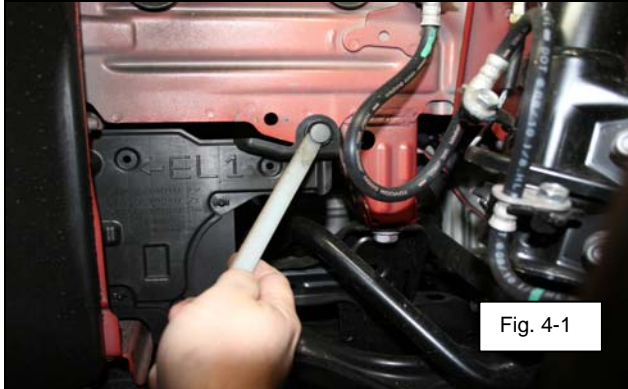

Fig. 4-1
- (b) Remove the 3 plastic clips from the inner front wheel well. (Fig. 4-1). Repeat process on the right side.